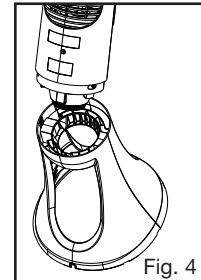
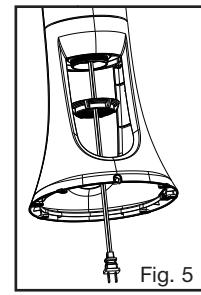

Fig. 4
Fig. 5
- Carefully lift the fan housing (Fig. 4) and place the power cord through the center of the base.
- Lower the fan housing into the base (Fig. 4), align the back of the fan with the back of the base. Gently rotate the fan housing until it is seated in the base. (Fig. 5).
- Take the locking nut and place power cord through the locking nut (Fig 4) bringing locking nut up inside the base, (Fig. 5) screw the locking nut onto the fan housing turning clockwise until fully tightened and an audible ratcheting is heard.